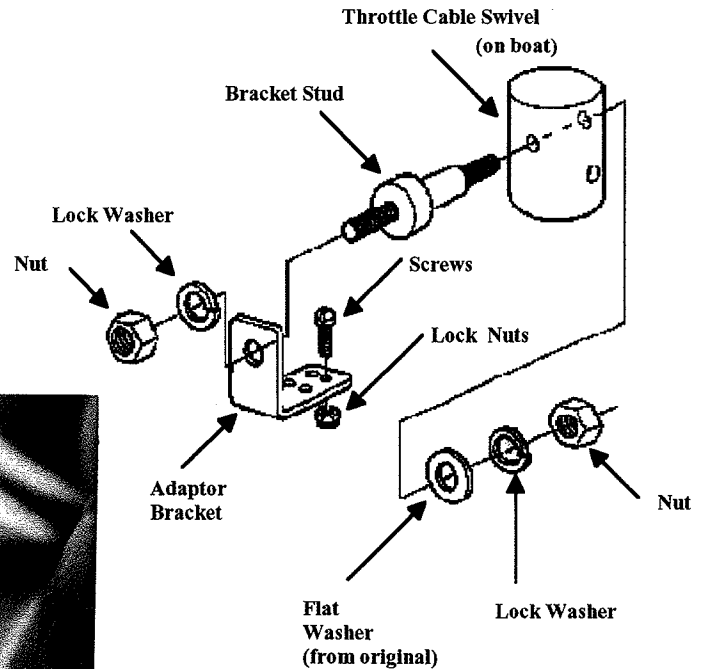

Figure 2
5. Attach the throttle cable to the throttle bracket with the remaining parts from the kit as shown in Fig. 2. **NOTE:** The flat washer used is from the original Mercruiser installation.